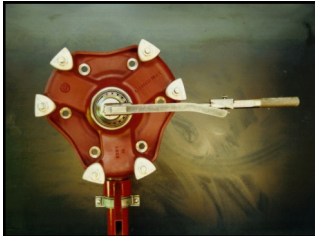

Fig 6.
Step 5. Push the hub onto the axle, fit the outer bearing cone and retaining nut. Torque to 600ft.lb, while rotating the hub. See Fig 6.